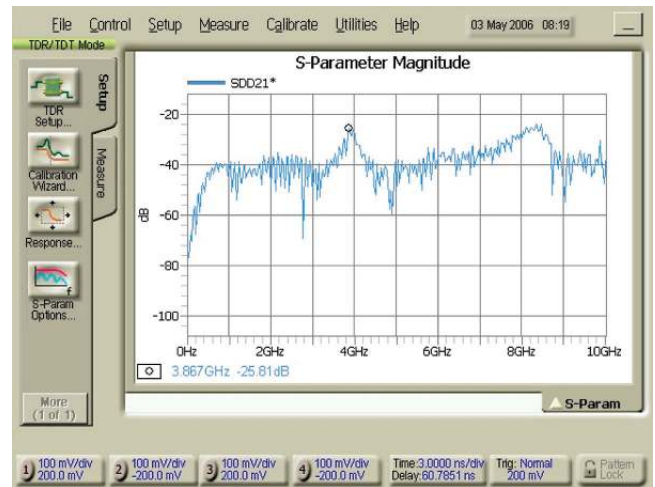

Figure 8. NEXT Frequency Domain
4 Using a marker, find and record the maximum NEXT between 10 MHz and 4500 MHz. See Figure 8.
- 4 Using a marker, find and record the maximum NEXT between 10 MHz and 4500 MHz. See Figure 8.